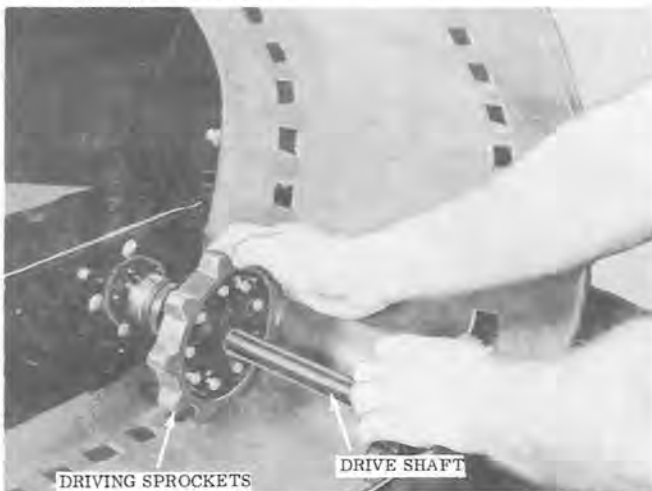

Figure 24
- b. Figure 24 shows the drive shaft and sprockets being removed. Pull shaft towards the side which has the chain housing removed. This will free the drive shaft and sprockets.